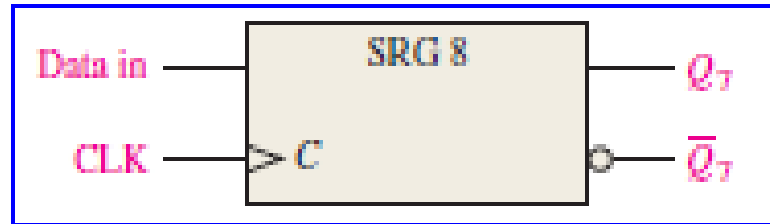

FIGURE 5 Logic symbol for an 8-bit serial in/serial out shift register.
- A traditional logic block symbol for an 8-bit serial in/serial out shift register is shown in Figure 5. The “SRG 8” designation indicates a shift register (SRG) with an 8-bit capacity.